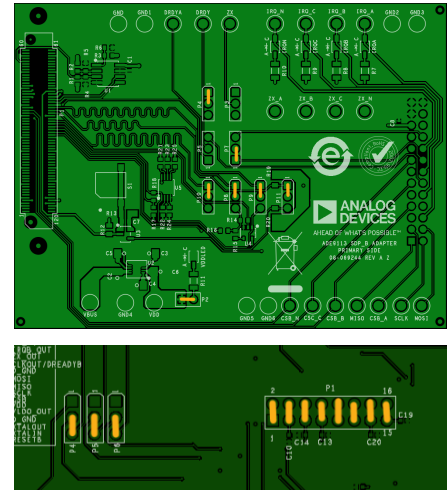
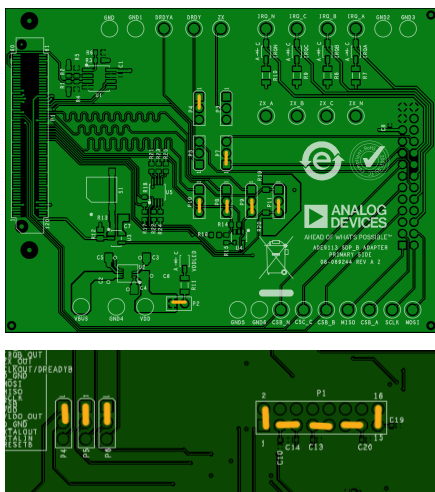

Figure 12. Jumper Configuration for Direct SPI
Figure 11. Jumper Configuration for Daisy-Chain SPI
3. For the SDP-B adapter and the EVAL-ADE9113EBZ, the jumper configuration selects the communication mode: daisy chain SPI or direct SPI. Refer to Table 1, Table 2, Figure 11, and Figure 12 to install the jumpers accordingly.